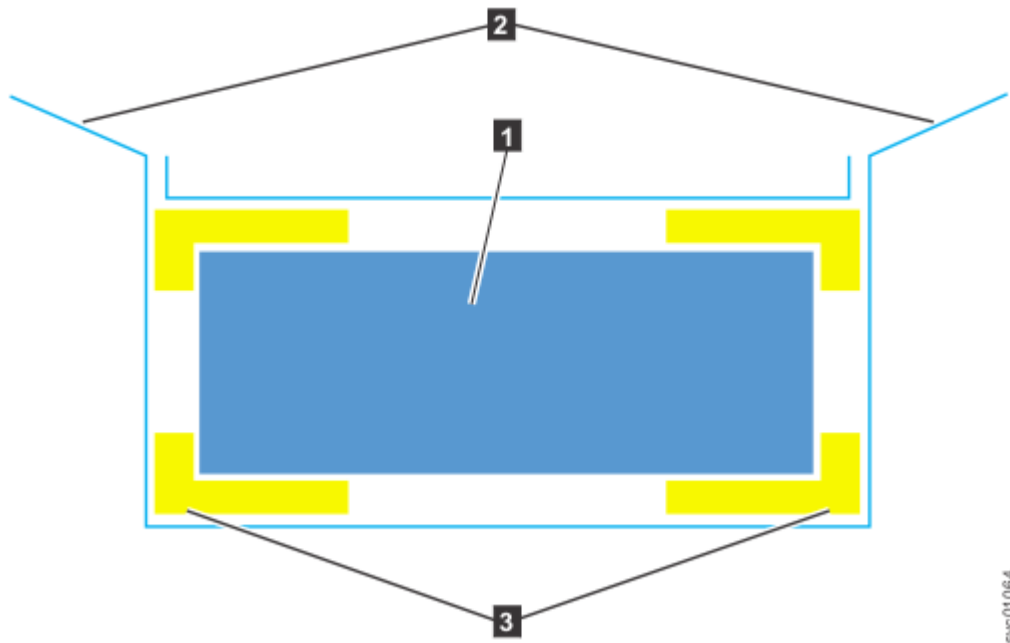

Figure 25. Packaging materials
3. Cut the corners of the shipping box and fold them down to uncover the sides and faces of the expansion enclosure, as shown in Figure 25 on page 25.